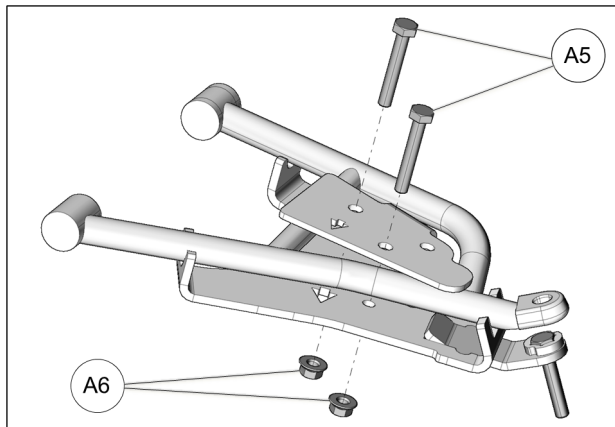

Fig. 22
11. Insert the M10x65 mm bolts (A5) through the top and secure the two parts together with the nuts (A6) provided. Tighten assembly to 50 N•m [37 lb•ft] of torque. See Fig. 22